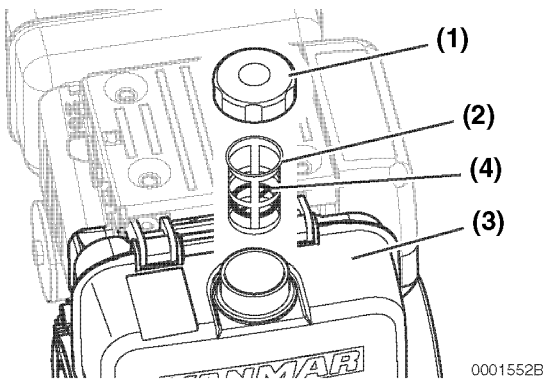

Figure 4-3
Note: A typical fuel tank is shown in **Figure 4-3**. The fuel tank on your engine may be different. The inlet fuel screen is shown removed from the fuel tank for clarity. ALWAYS make sure the inlet fuel screen remains inside of the fuel tank while fueling.
1. Clean the area around the fuel cap (**Figure 4-3, (1)**).
2. Remove the fuel cap from the fuel tank (**Figure 4-3, (3)**).
3. Stop fueling when the fuel is at the same level as the red ring (**Figure 4-3, (4)**) at the bottom of the inlet fuel screen (**Figure 4-3, (2)**). NEVER overfill the fuel tank. Overfilling the fuel tank may allow contaminated fuel to bypass the intake fuel filter by entering through the air bleed hole in the top of the fuel filter.